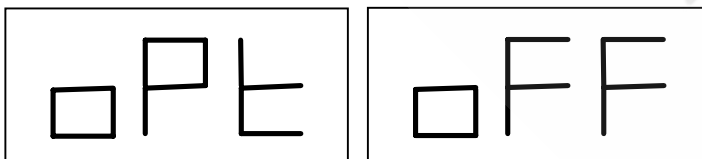
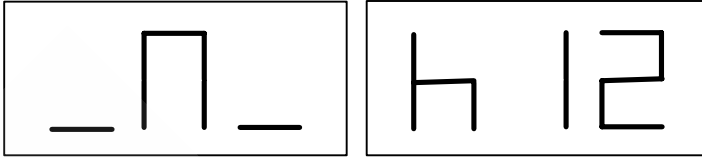

Fig. F5.2 Optimisation Program not possible
Fig. F5.3 - "Bring the valve to the 12 o'clock position" message
2. If the wheel's static imbalance is less than 12 grams, the machine will display the message shown in Figure F5.2 for a second and then will automatically exit the optimisation program. If the wheel's static imbalance is instead greater than or equal to 12 grams, the message shown in Figure F5.3 will be displayed;
- At the end of the cycle, the message seen in figure F5.3 will be displayed. Two options are available: